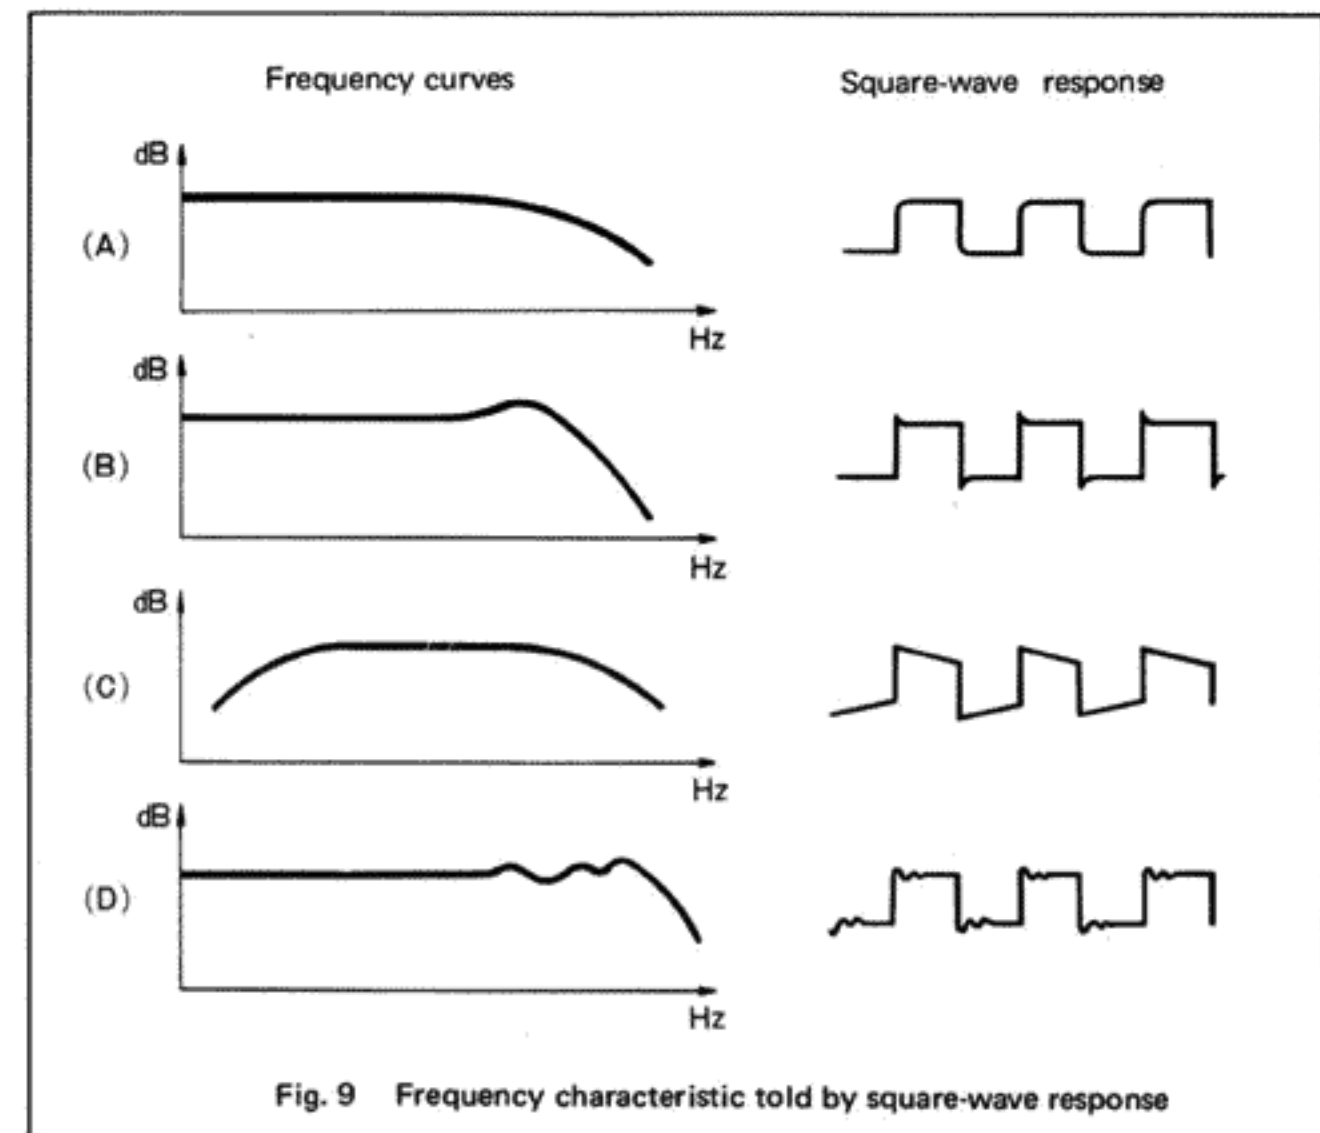

Fig. 9 Frequency characteristic told by square-wave response
Fig. 9 shows two sets of response: (1) frequency characteristic curves and (2) different kinds of response to the same square-wave input signal. Each square-wave display (on the right side) corresponds to the frequency characteristic curve given on its left.